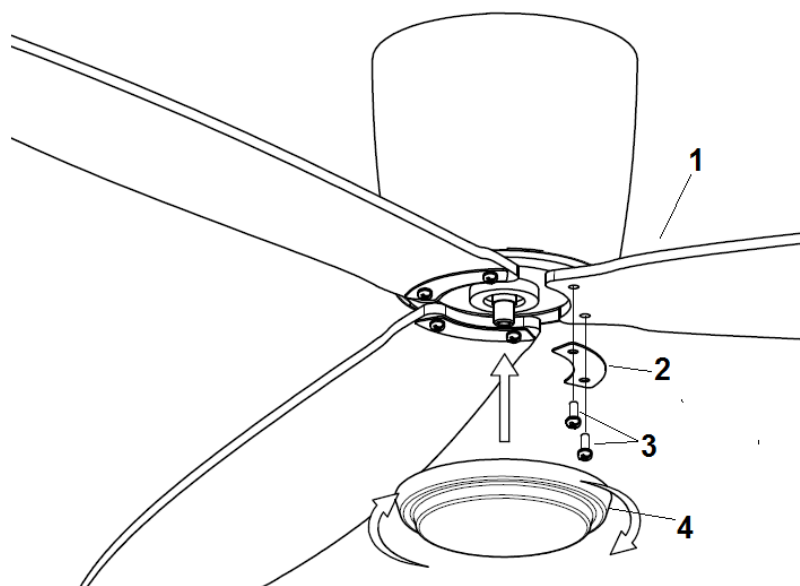

Fig. 9
- Insert the blade screws through the blade assembly in the following order - bracket kit (2) and blade (1). Attach the blade assembly to the motor and secure it by tightening the 2 screws (3). Fig. 9
- Finally install the bottom cover (4) to the shaft of the motor by rotating it clockwise.